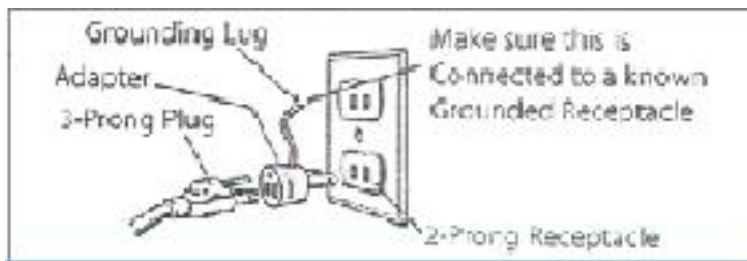

Figure 2 - 2-Prong receptacle
A temporary 3-prong to 2-prong grounding adapter (see figure 2) is available for connecting plugs to a two pole outlet if it is properly grounded.
- A temporary 3-prong to 2-prong grounding adapter (see figure 2) is available for connecting plugs to a two pole outlet if it is properly grounded.